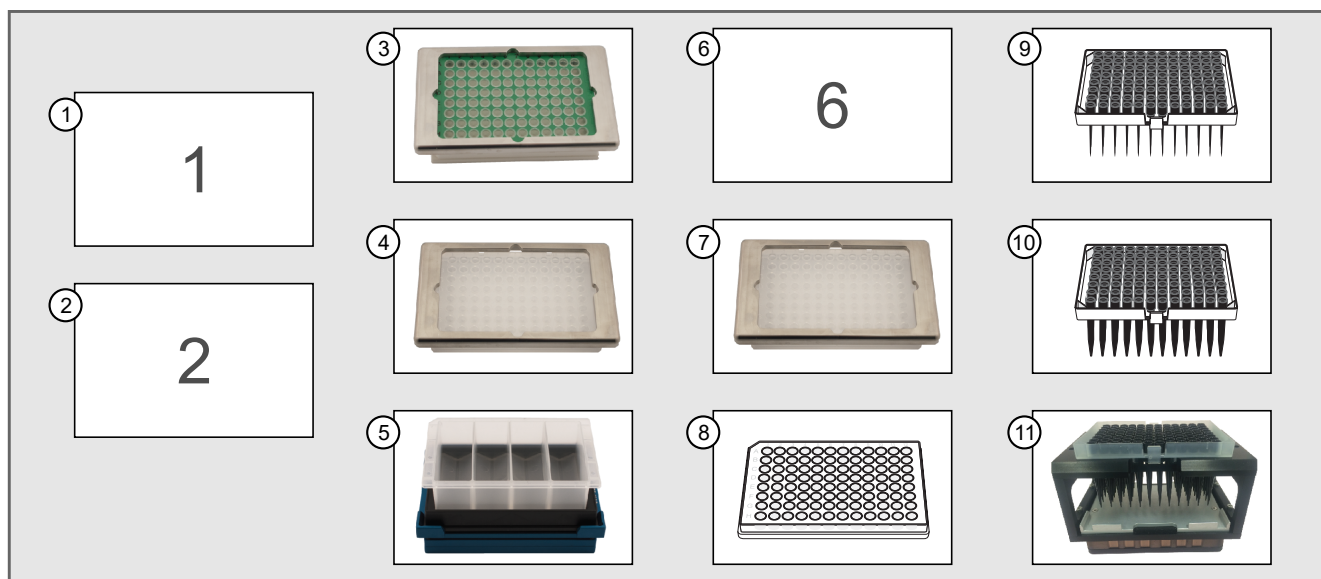

Figure 6 Stage 4C: Perform sample QC deck layout.
2. Set up the deck as indicated in the deck setup prompt and following screens, then click **Run**. See Figure 6.